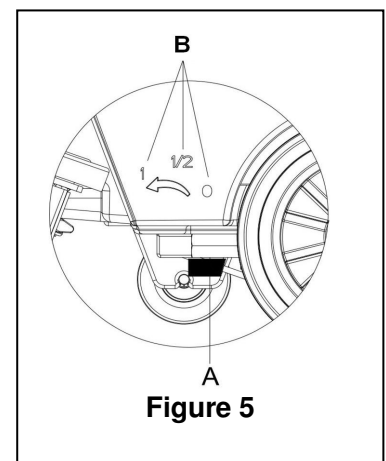

Figure 5
Regulating the ball valve handle (A, Figure 5) must be done under the condition when the power switch (38) is in the "Off" position.
10. The volume of the water flow may be adjusted through the ball valve handle (A, Figure 5) according to the amount of water required for your scrubbing application.